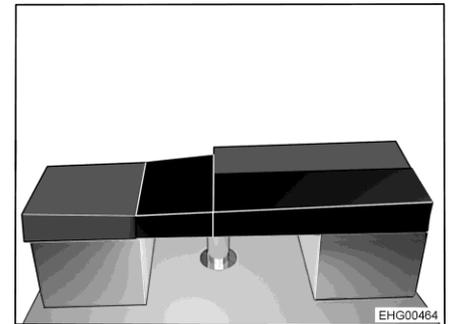

Fig. 183 After conversion
- Place rectangular additional cushion on the table (see Fig. 183).
- Place angled additional cushion on the L-shaped bed widening (see Fig. 183).